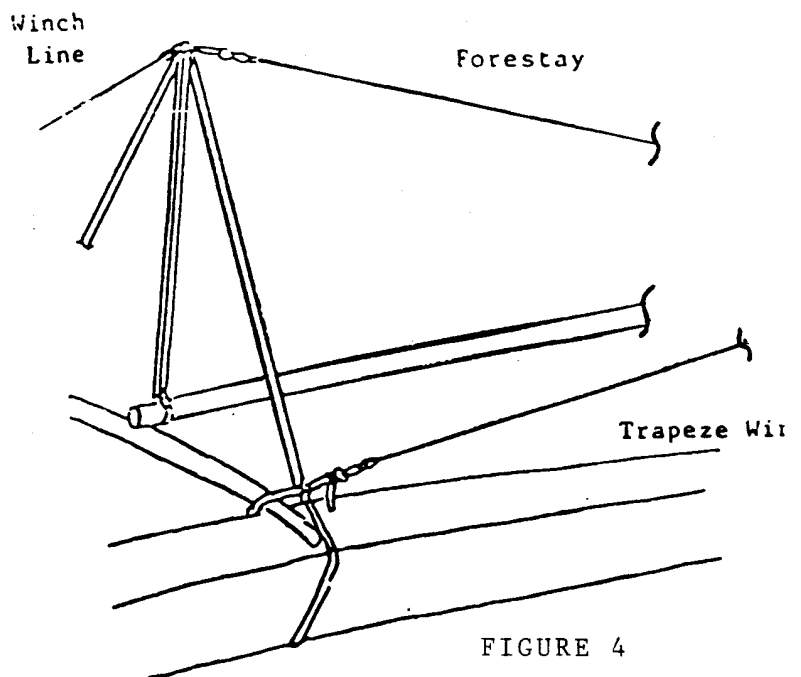

FIGURE 4
8. For on-trailer use, the boat must be secured to the trailer. CHECK THE WINCH, LINE AND HOOK CAREFULLY AND REPLACE ANY DETERIORATED AND/OR UNSAFE COMPONENTS. Connect the winch hook into the lift strap ring and take up slack in the winch line. The system should appear as depicted in Figure 4. Make sure that all lines are clear and raise the mast a foot or two with the winch. NEVER ALLOW ANYONE TO STAND UNDER THE MAST WHILE IT IS BEING RAISED OR LOWERED! Lock the winch and check to see that the mast will not swing more than two or three feet to each side before the straps and trapeze wires prevent further motion. Continue raising the mast with the winch, checking periodically to make sure the trapeze wires and the stabilizing straps do not become overly tight. If they do, lower the mast and loosen the side straps slightly. Once properly adjusted, the E-Z STEP can be attached and removed without need for adjustment.